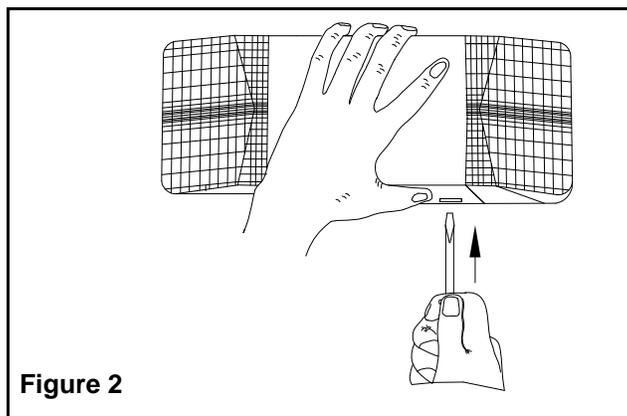

Figure 2
2. Using a flat head screwdriver, insert the blade into the slot and gently pry off the back plate (see figure 2).